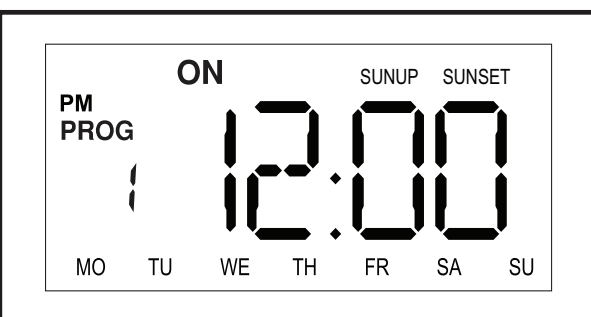

Figure 6
- a. There are three options to choose from when selecting the program ON time. Press **UP/DOWN** (D) to scroll through these options: CUSTOM TIME (12:00) – SUNUP – SUNSET. Choose one of these substeps and then proceed to the next step in this series:
- To set the Program 1 ON Time to the pre-set SUNUP time, press **UP/DOWN** (D) to find the SUNUP time on the display and press **SET** (B).
- To set the Program 1 ON Time to the pre-set SUNSET time, press **UP/DOWN** (D) to find the SUNSET time on the display and press **SET** (B).
- To choose a custom time press **UP/DOWN** (D) to find the screen showing 12:00 blinking and press **SET** (B). Press **UP/DOWN** (D) to find the hour you would like the timer to turn the program ON and press **SET** (B). Take note of the AM/PM on the upper left of the screen. The minutes will now be blinking. Press **UP/DOWN** (D) to find the minute you would like the timer to turn the program ON and press **SET** (B).
- c. Repeat the same substeps for Program 2 (P2) through P7 to set as many ON/OFF cycles as desired. At any time, push **PROG** (C) to complete programming and return to Clock mode.
- d. Once all programming is complete make sure the lamp or device is set in the On position, and AUTO shows at the top of the timer display. Press **ON/OFF** (F) to cycle to the AUTO option. Plug the lights or devices into the timer and plug the timer into the wall. Your timer is ready to use. See Figure 6.